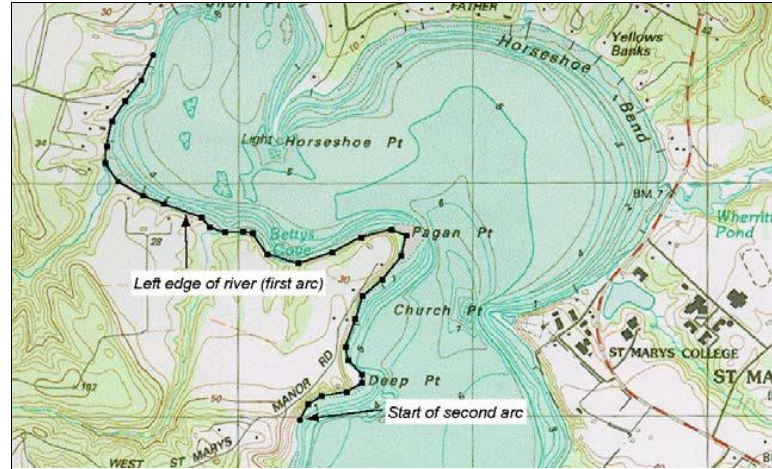

Figure 11 Creation of the first feature arc
3. Using the **Create Feature Arc** tool from the dynamic toolbox, click out the left riverbank, as shown in Figure 11 (if necessary, use the **Zoom** tool to get a closer view). While creating the arc, if a mistake happens and there is a need to